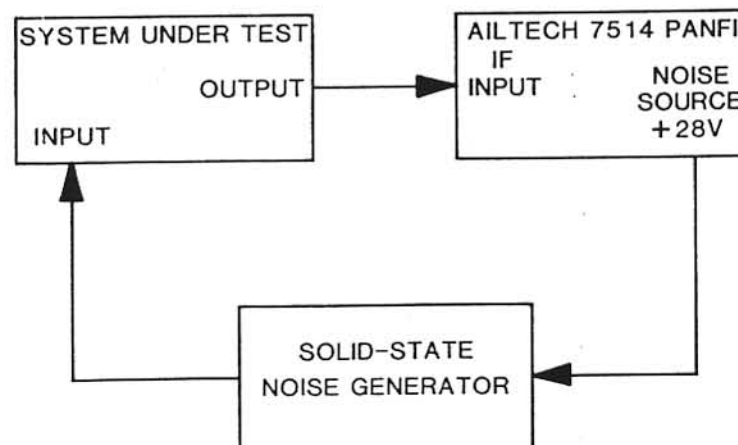

FIGURE 3-4. AUTOMATIC NOISE FIGURE MEASUREMENT USING SOLID-STATE NOISE GENERATOR
- a. Connect equipment as shown in Figure 3-4.